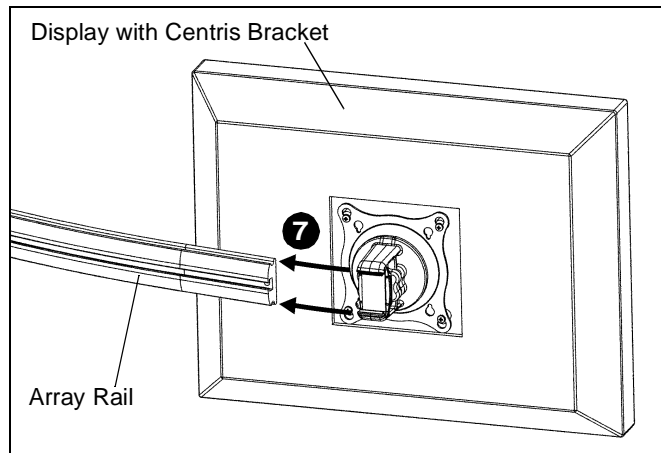

Figure 13
7. Slide display with Centris bracket onto array rail. (See Figure 13)